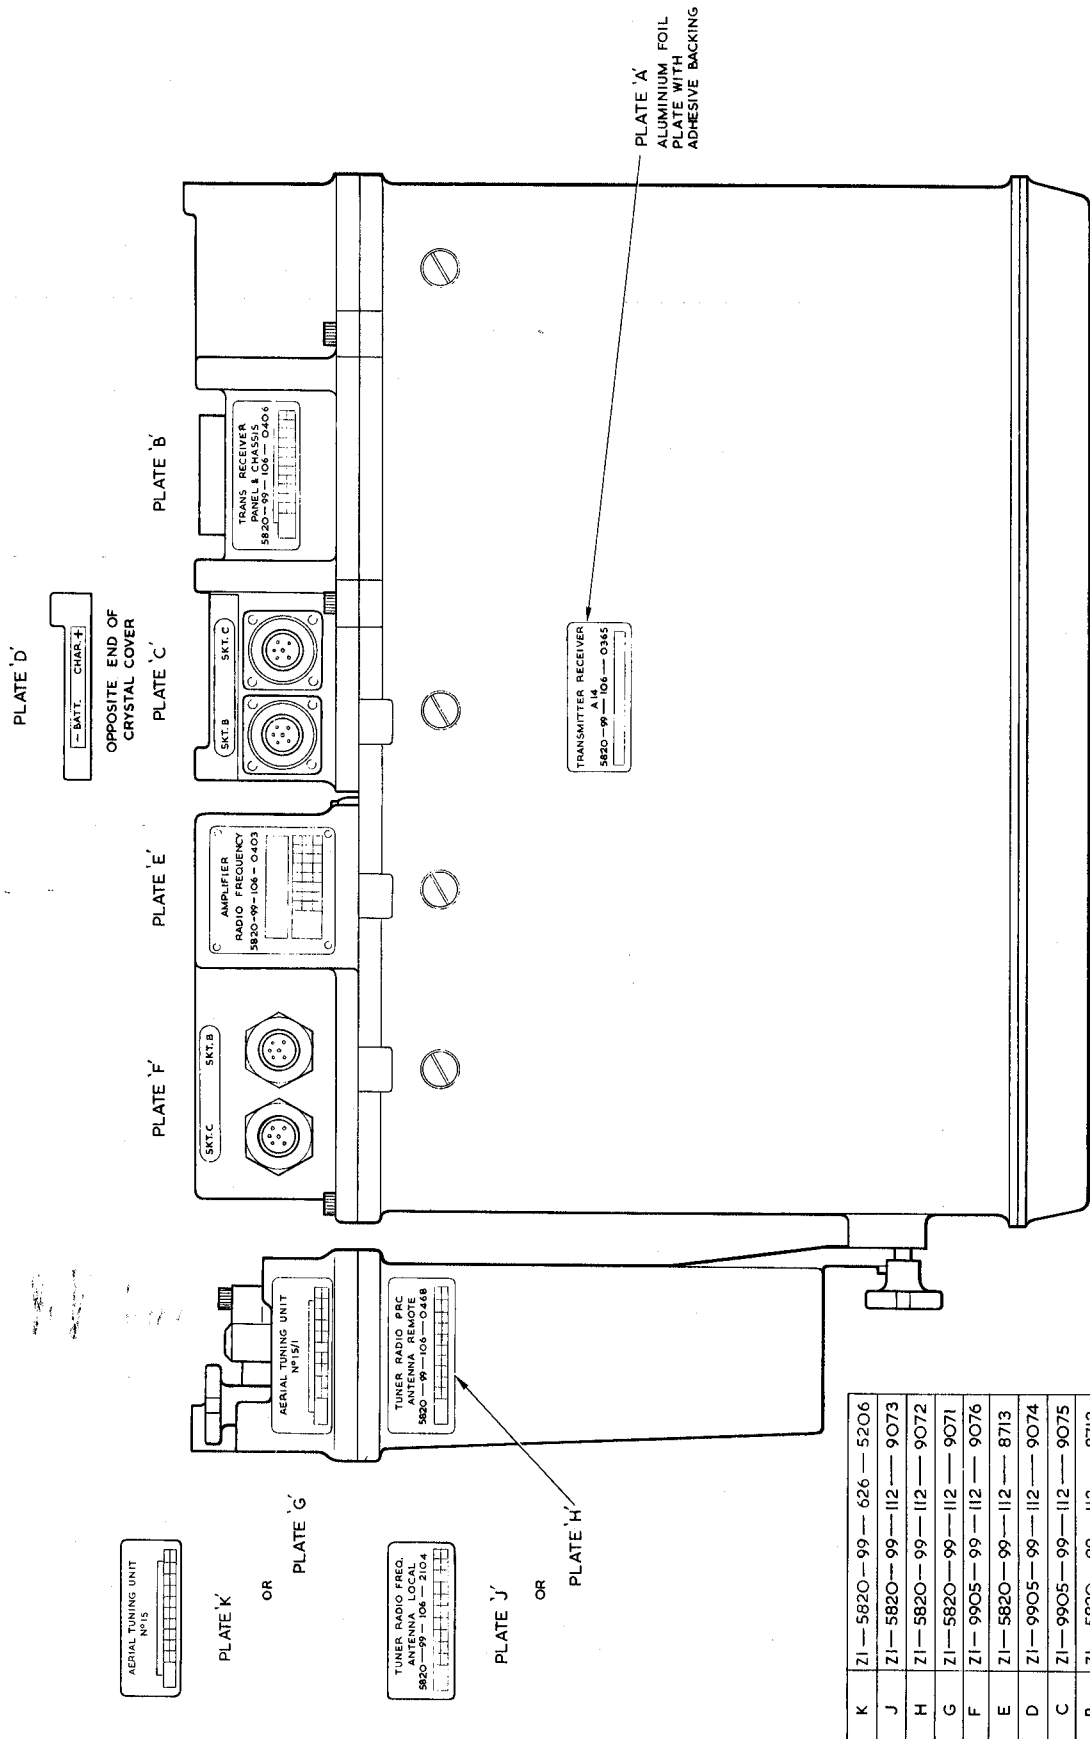

Fig 1 -- Location of modification/identification plates
d. Strike through with a diagonal line all modifications appearing on the original modification record label. Record the embodiment of this modification by striking through figure 15. Secure the replacement plate in position (see Fig 1, Plate B) using the Araldite adhesive. Discard old labels.
e. Locate identification labels at SKTB and SKTC. Remove these labels as at b. and discard. Replace with designation plate Z1/9905-99-112-9075 and secure in position (see Fig 1, Plate C) using the Araldite adhesive.
f. Locate identification label at the battery charge sockets. Remove as at b. and discard. Replace with designation plate Z1/9905-99-112-9074 and secure in position (see Fig 1, Plate D) using the Araldite adhesive.
h. Identify replacement modification record plate Z1/5820-99-112-8713. Record serial number and previous modification action as at c. and d. Record the embodiment of this modification by striking through figure 7. Secure the replacement plate in position (see Fig 1, Plate E) using the Araldite adhesive. Discard old labels.
j. Locate identification labels at SKT B and SKT C. Remove as at b. and discard. Replace with designation plate Z1/9905-99-112-9076 and secure in position (see Fig 1, Plate F) using the Araldite adhesive.
l. Identify replacement modification record plate Z1/5820-99-112-9071 for Aerial Tuning Unit No 15/1 or modification record plate Z1/5820-99-626-5206 for Aerial Tuning Unit No 15. Record serial number as at para 7.c. Record the embodiment of this modification by striking through the Figure 1. Secure the appropriate replacement modification plate in position (See Figure 1, Plate G or K) using the Araldite Adhesive. Discard old labels.
m. Identify Tuner radio frequency antenna. Ascertain from identification label whether this assembly is a REMOTE assembly or a LOCAL assembly. If a REMOTE assembly, remove identification label as at b. Identify replacement modification record plate Z1/5820-99-112-9072. Record serial number as at c. Record the embodiment of this modification by striking through figure 1. Secure the plate in position (see Fig 1, Plate H) using the Araldite adhesive. Discard old label.
n. If a LOCAL assembly is employed, action is at para m. but replacement modification record plate is Z1/5820-99-112-9073. Record embodiment of this modification by striking through figure 1. Secure the plate in position (see Fig 1, Plate J) using the Araldite adhesive. Discard old label.